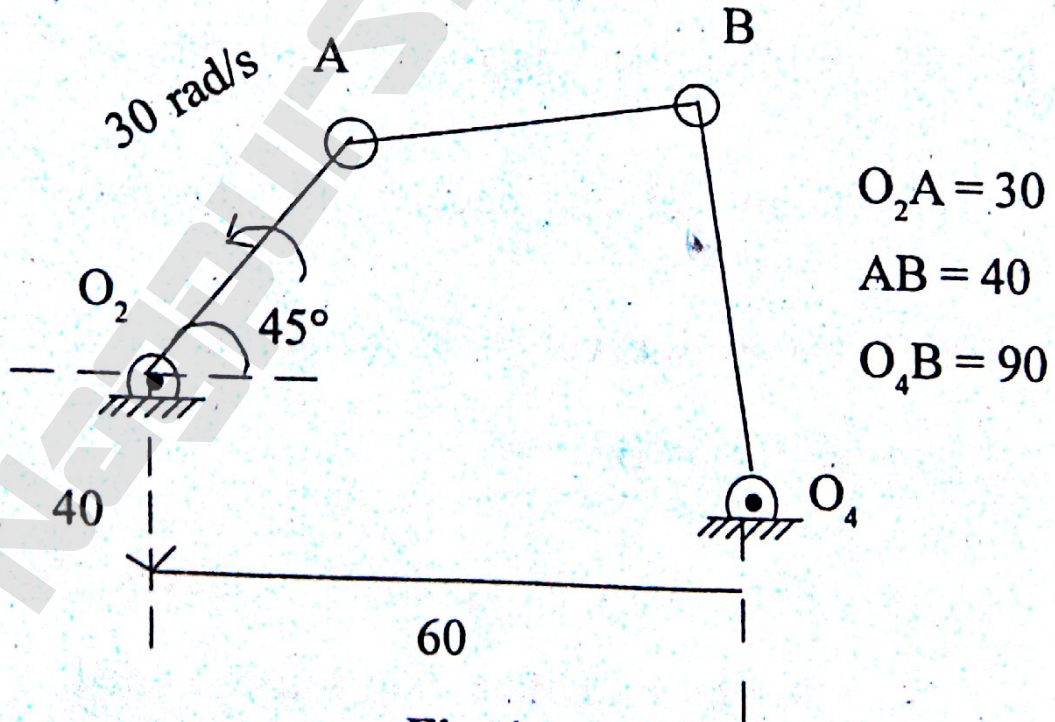

Fig. 4.1
- (b) Determine the angular velocities of the links AB and O_4B for the mechanism shown in Fig. 4.1 using instantaneous centre. 9